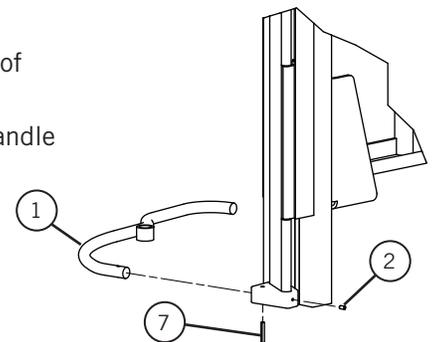

Figure 38
- 1) See **Figure 38**. Place the front lock handle (1) into the block at bottom of bulkhead lock assembly and secure using 1/4-20 x .5 set screw (2).
- 2) Drill a 1/4" hole thru the top side of the block and thru the front lock handle (1) and secure with 1/4 x 1 1/2 spring pin (7).